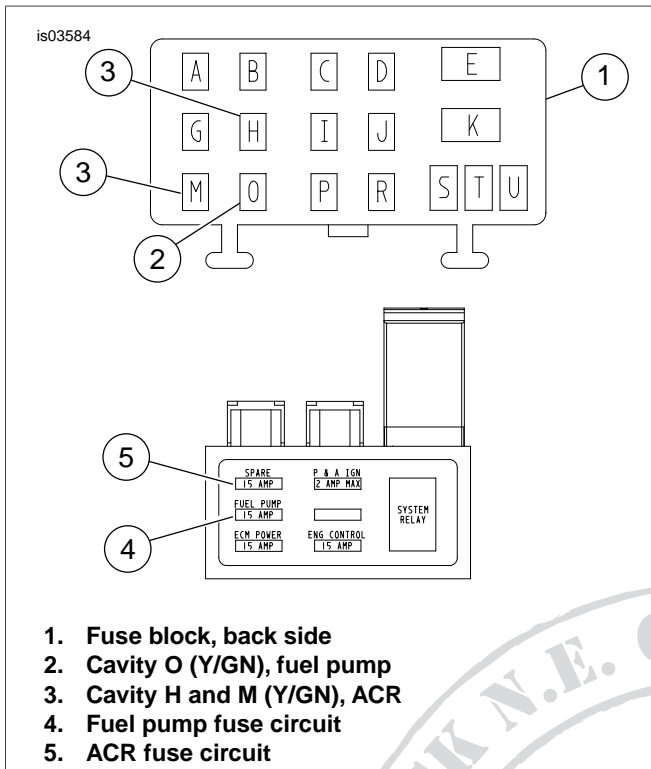

Figure 10. EFI Fuse Block (Modified)
- See Figure 10. Install fuel pump fuse (Y/GN) terminal wire previously removed from cavity H into spare fuse cavity O (2).
- Install Y/GN terminal wires from ACR overlay wire harness into cavities M and H (3).
- Install fuel pump fuse (4) and ACR fuse (5) (formally spare fuse) into EFI fuse block.